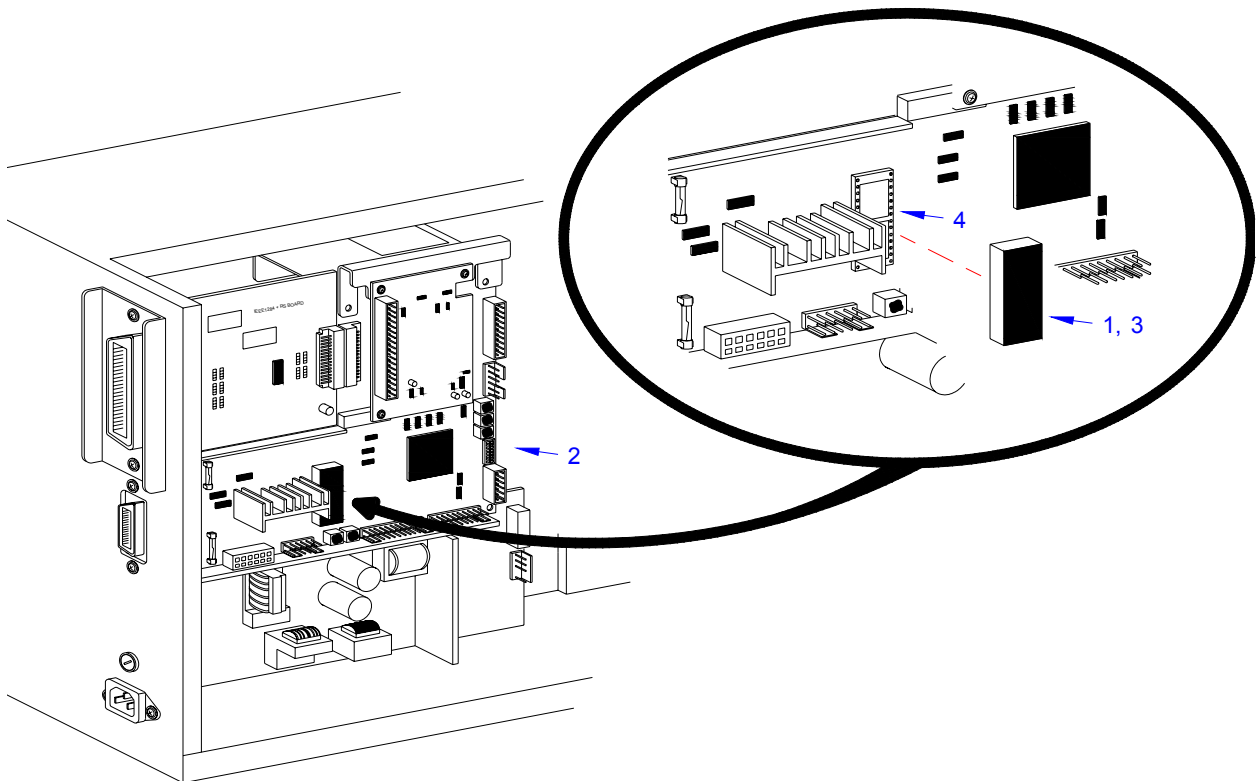

Figure 4-5, Real-Time Clock Installation
- 3 Locate and withdraw the EEPROM chip (1, Figure 4-5) from main circuit board (2).